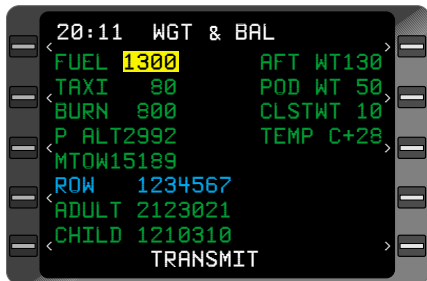

Figure 8-14
3. **ENTER** Key - DEPRESS. **WGT/BAL** Page is displayed. See Figure 8-14.